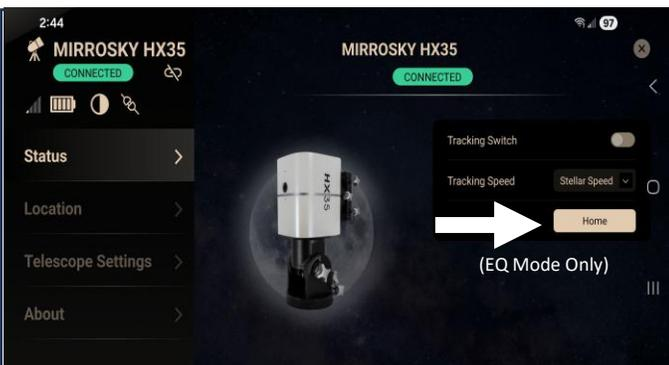

Fig. 2.30
- 2. Electronic Slew:** In the MirroSky app, use the movement keys or the dedicated HOME button (EQ mode only) within the MirroSky app to electronically slew the telescope. See Fig. 2.30.